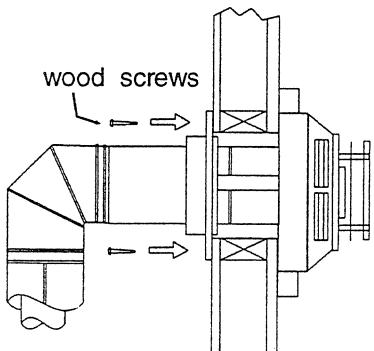

Fig. 5
7) Slide the decorative wall thimble up the wall surface and attach with screws provided. Apply decorative brass or chrome trim if desired. Fig. 5.